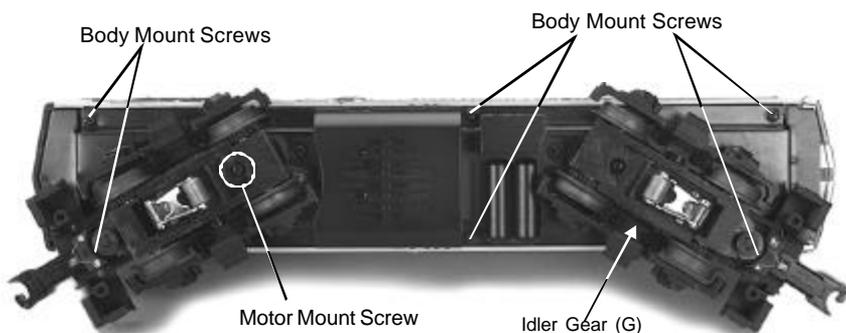

Figure 10. Body Mount Screws and Greasing Points.
1. Remove the six Phillips screws from the chassis, as seen in Figure 10, then lift the body away from the chassis.
2. Remove the truck blocks from the chassis by unscrewing the large Phillips motor mount screw on the bottom of each truck block, as shown in Figure 10.
It is also a good idea to lubricate the outside truck block idler and drive gears with grease occasionally. Add grease to the points marked with "G" in Figure 10